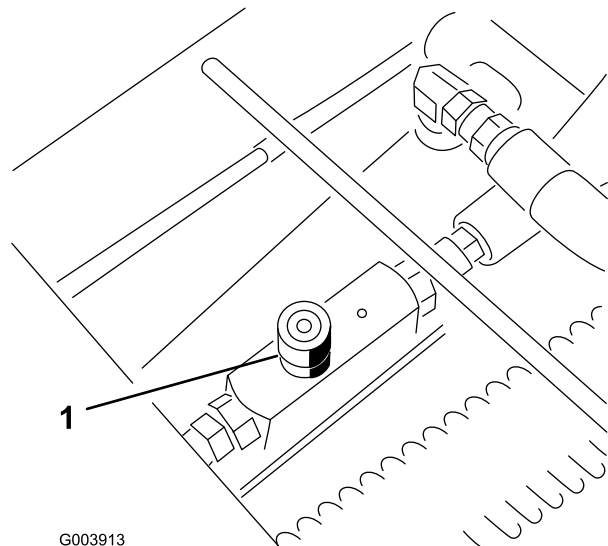

Figure 74
1. Locate the valve behind the access panel above the operator's platform (Figure 74).